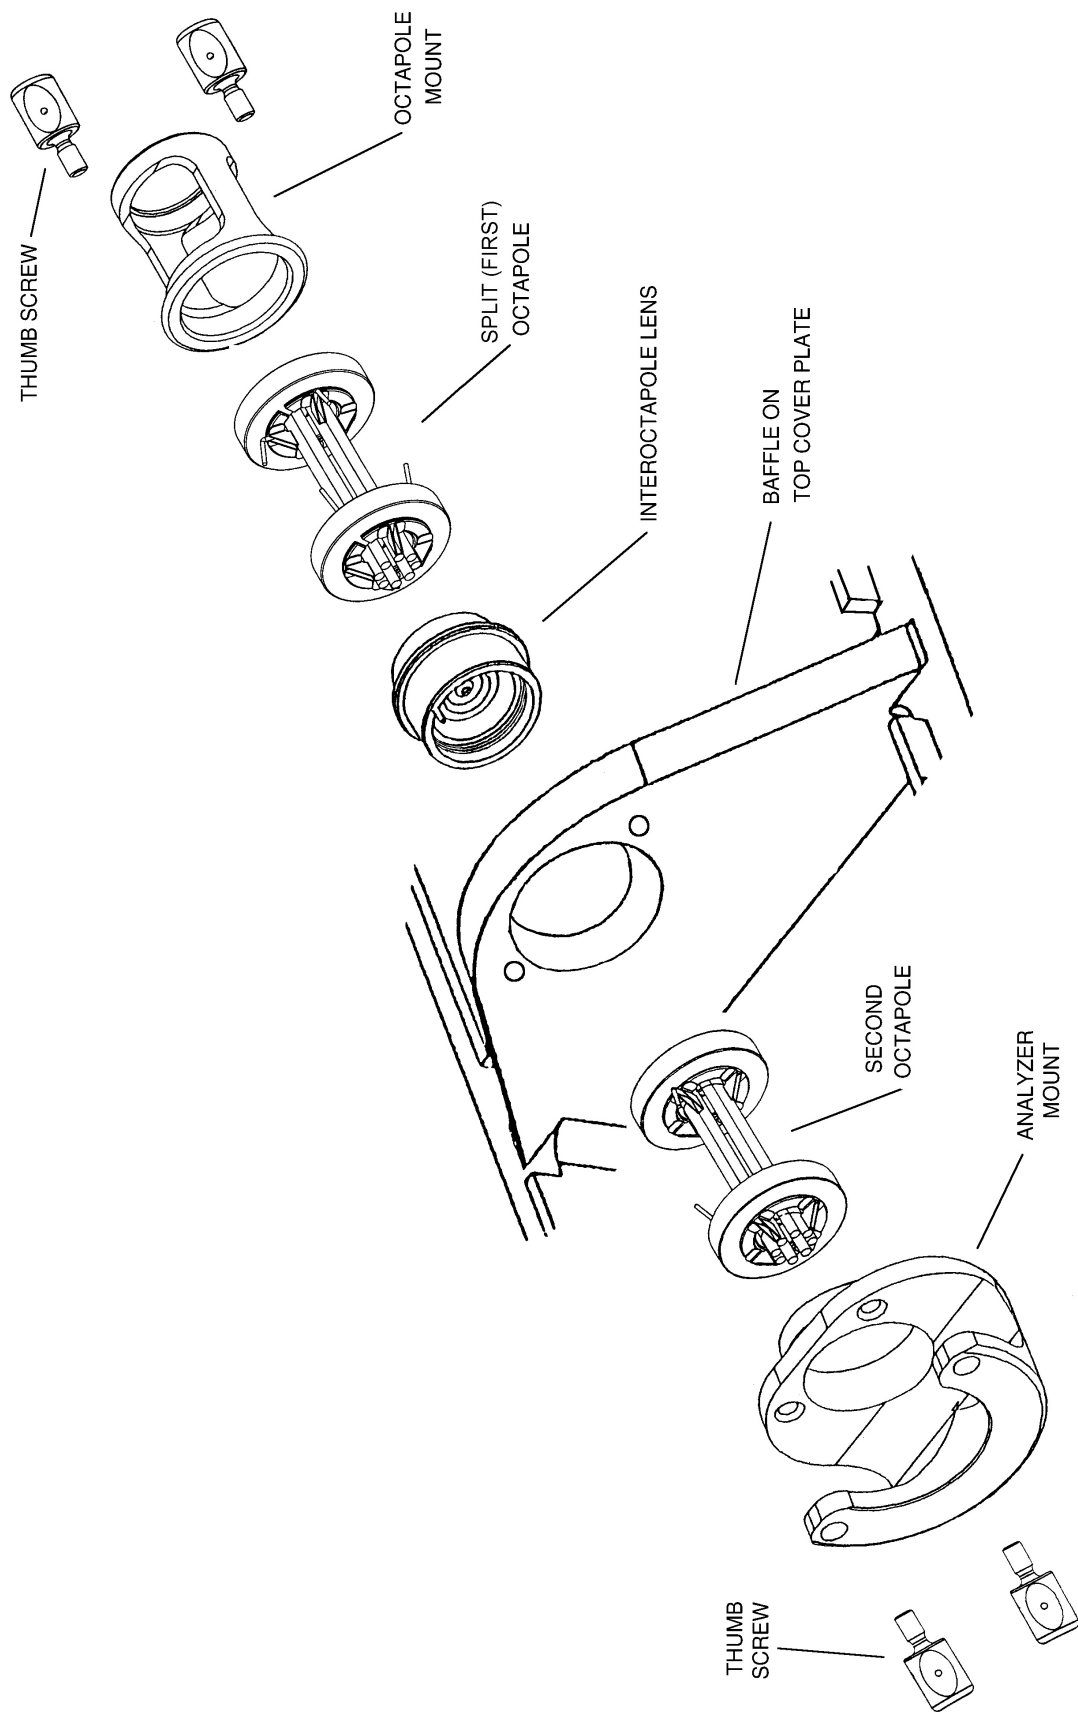
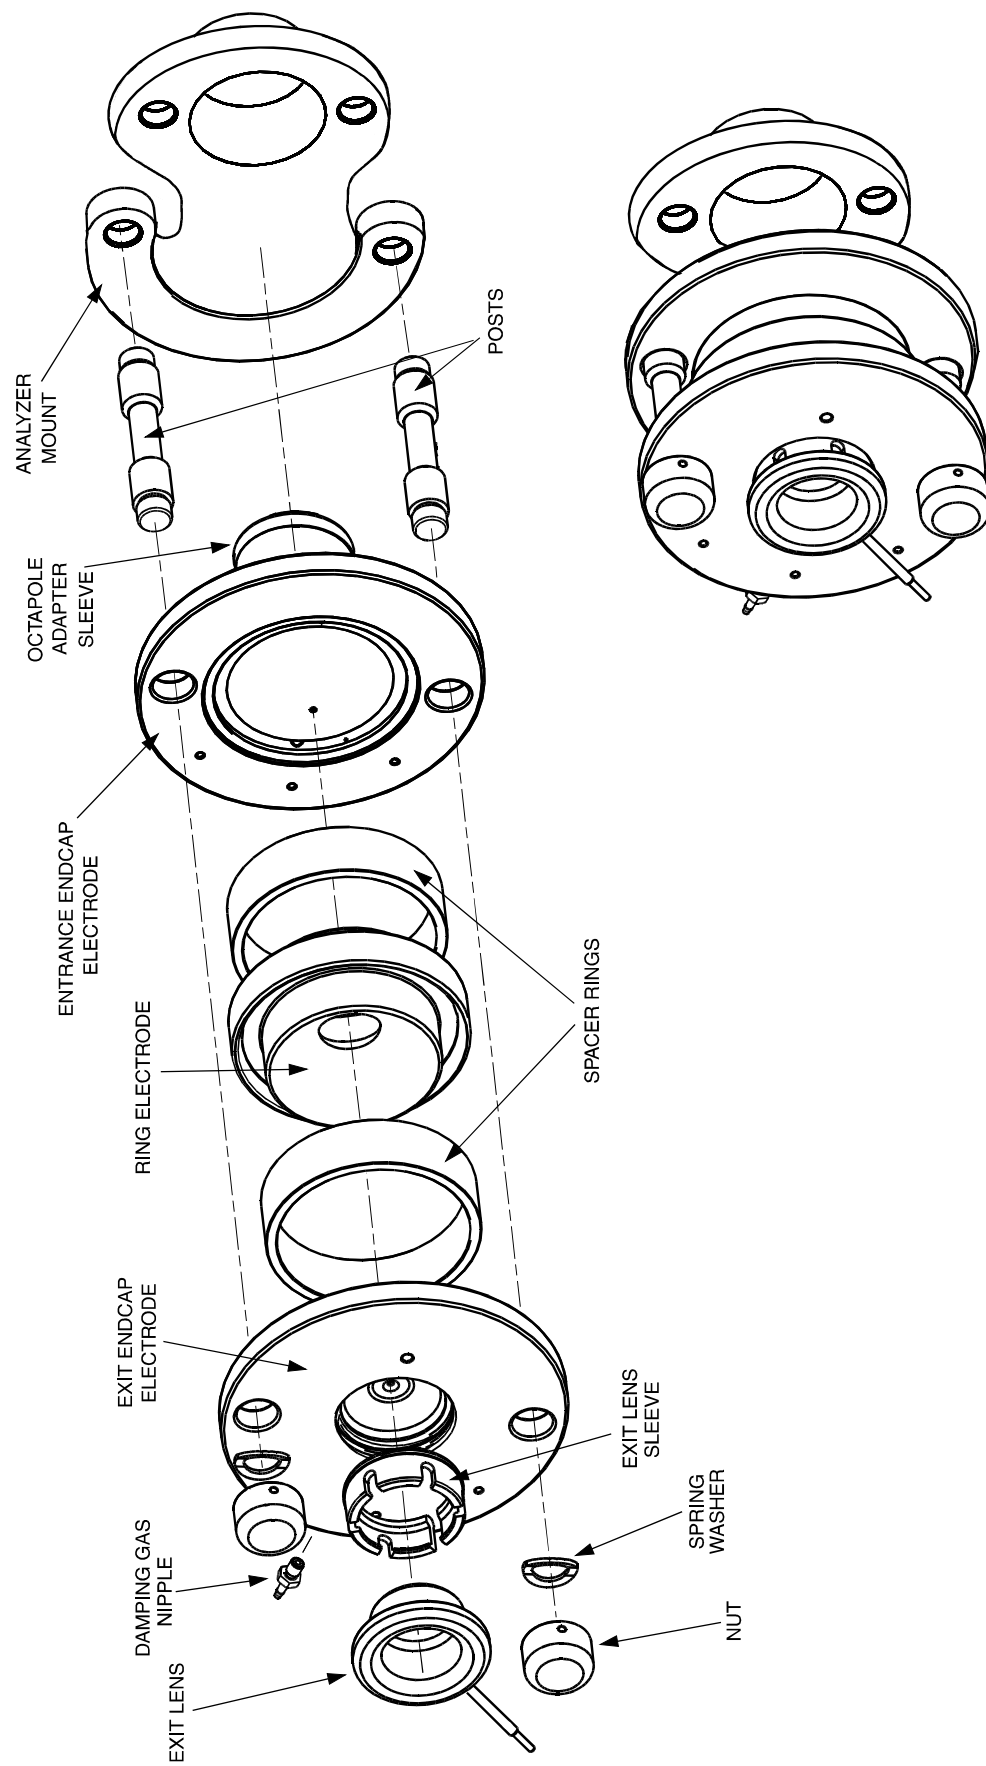

Figure 5-6. Exploded view of the ion optics
Figure 5-7. Exploded and assembled views of the mass analyzer
Use the following procedure to remove the ion optics and mass analyzer from the top cover plate. See Figure 5-6 and Figure 5-7 for the location of the ion optics and mass analyzer components.
7. Disconnect the damping gas line from the nipple on the exit endcap electrode by pulling the line free from the nipple. See Figure 5-7
To disassemble the ion optics and mass analyzer, proceed as follows. See Figure 5-6 and Figure 5-7 for the location of the ion optics and mass analyzer components.
Use the following procedure to reassemble the ion optics and mass analyzer. See Figure 5-6 and Figure 5-7.
10. Squeeze the exit lens sleeve and insert it into the recess in the exit endcap electrode. See Figure 5-7 on page 5-27 for the proper orientation of the exit lens sleeve.